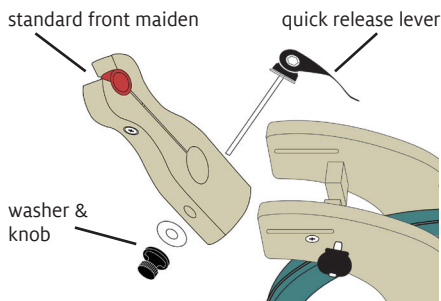

FIGURE 1: REMOVE STANDARD FRONT MAIDEN
2. Remove the standard front maiden: Open the front maiden quick release lever. Unscrew its knob on the right side of the wheel, then remove this knob and the washer. Pull the lever handle to the left until the shaft comes completely out of the front maiden. Remove the front maiden from the wheel (Figure 1).